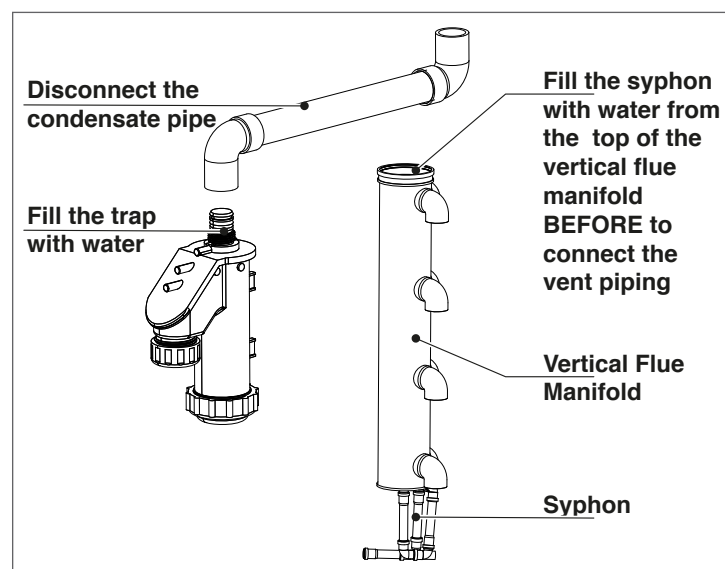

Fig. 12 Water Filling of Condensate System
The procedure for filling the traps and syphon with water is shown on the Fig. 12:
**⚠ CAUTION:** Use PVC, CPVC, stainless steel, aluminum or polypropylene for condensate drain piping (Fig. 12). DO NOT use carbon or copper components.